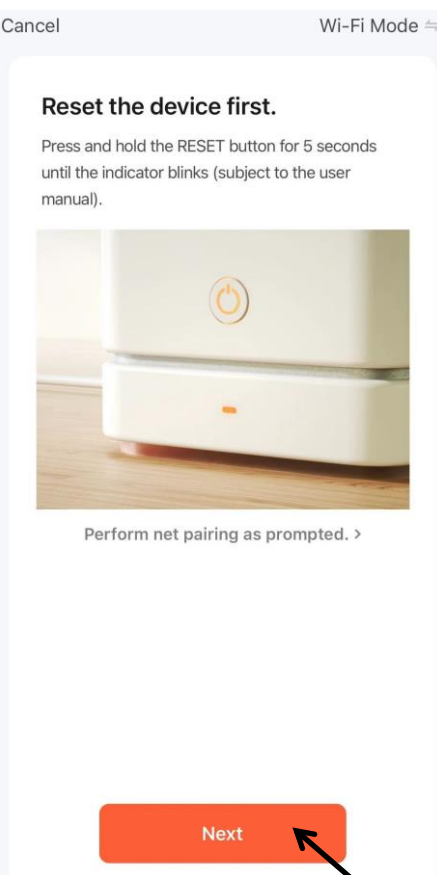
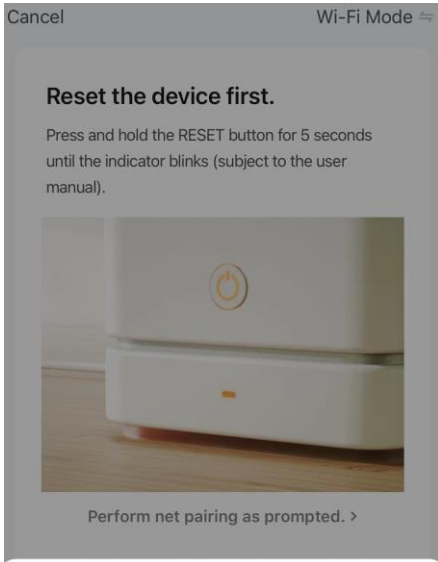

Fig.3
Fig.4
- 4. Tap “Next” on Fig.3. Continue to tap “Blinking or breathing rapidly” on Fig.4.